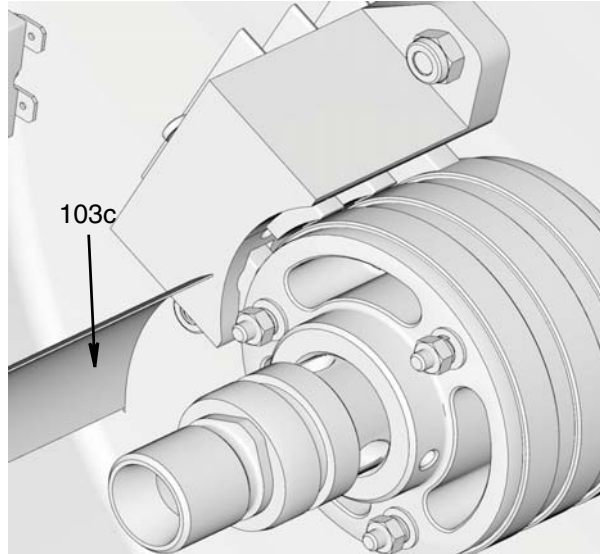

FIG. 25
7. Remove tool (103c) from assembly (FIG. 25).